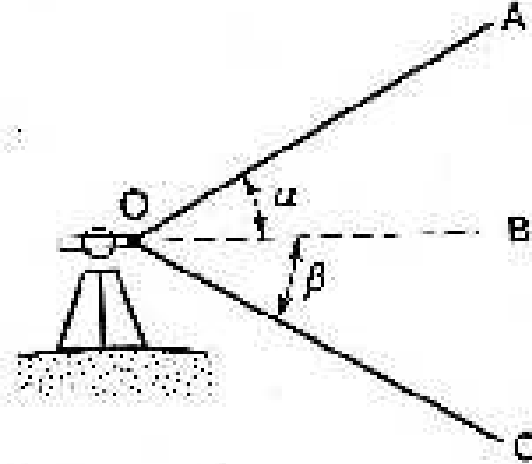

Fig.2 Measurement of Vertical Angle
1) Let $\angle AOB$ is to be measured (Fig.2):
2) Let $\angle AOC$ is to be measured (Fig.2):